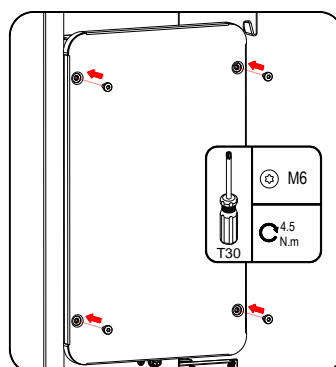

FIG 5-7 Reinstall the Upper Cover of the Junction Box
Step 9: Reinstall the sealing plate and the upper cover of the junction box, as shown in FIG 5-7.
Step 4: Reinstall the upper cover of the junction box, as shown in FIG 5-7.